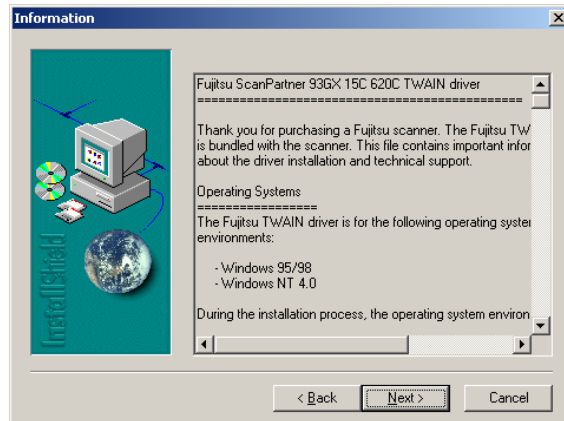

Figure 36.
- 7 Select **Next** at the screen similar to Figure 36.